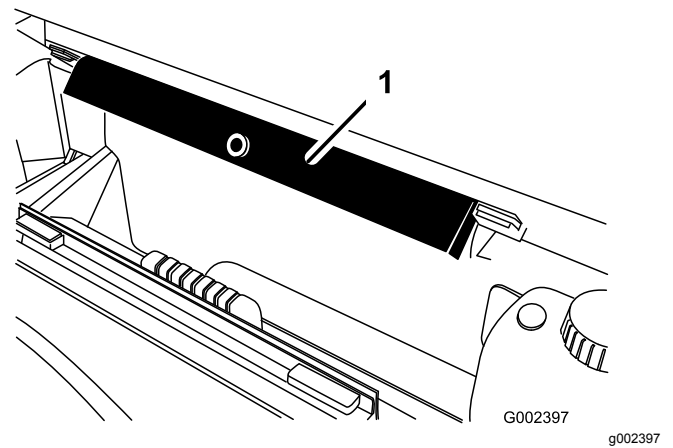
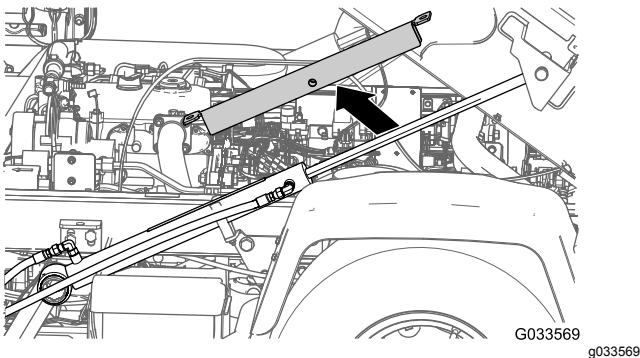

Figure 35
Figure 34
- Remove the bed support from the lift cylinder and stow the support in the storage brackets at the back of the ROPS panel (Figure 34 and Figure 35).